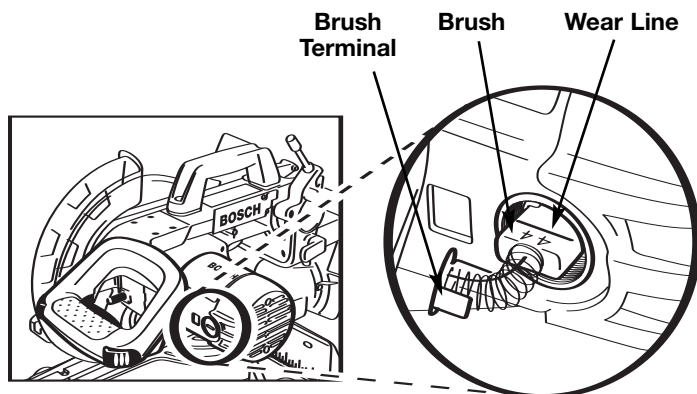

Figure 37. Motor Brush
3. Pull out the brush (Figure 37). Repeat for the opposite side.
5. Install new brush. The two (2) tabs on the brush terminal go in the same hole the carbon part fits into.